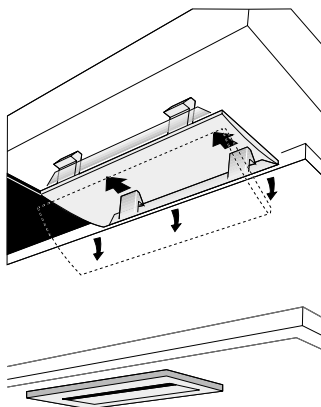

Fig. 6
- Remove the lamp cover. **Fig. 6.**